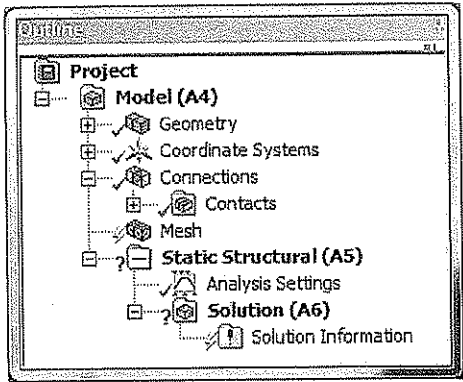

Figure 8-14 The initial Tree Outline in the Mechanical window
2. Expand the **Connections** node to display the **Contacts** node, as shown in Figure 8-14.
Notice that, a yellow thunderbolt symbol is attached to **Mesh** in the Tree Outline, refer to Figure 8-14, which indicates that a mesh of the assembly has to be generated. To do so, follow the procedure explained next.